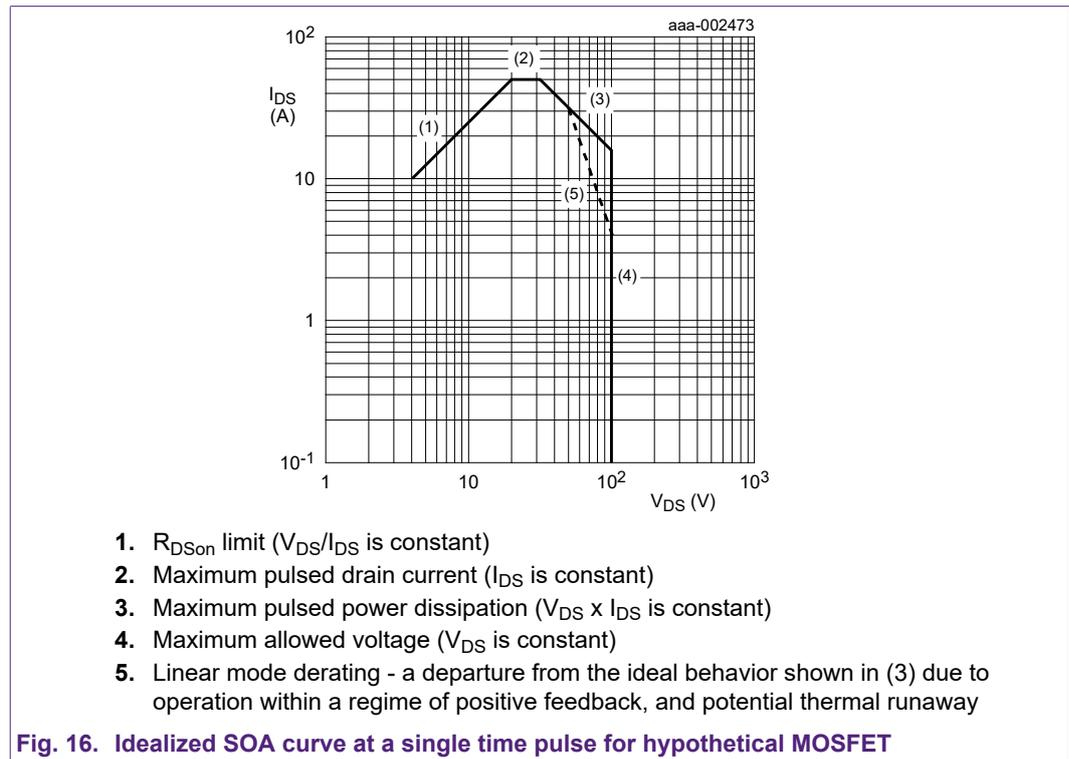

Fig. 16. Idealized SOA curve at a single time pulse for hypothetical MOSFET
To highlight the key features, Fig. 16 provides an idealized SOA curve for a hypothetical MOSFET. Data for a hypothetical MOSFET for a single pulse length, is shown to highlight the region where it deviates from the ideal curve.
The device is limited by its breakdown voltage V_{DS} which is shown in region (4). The quick reference data provides values for V_{DS} at temperatures of 25 °C and above. In the hypothetical MOSFET shown in Fig. 16, the rating is 100 V. For the BUK7Y3R5-40H, the voltage is 40 V.